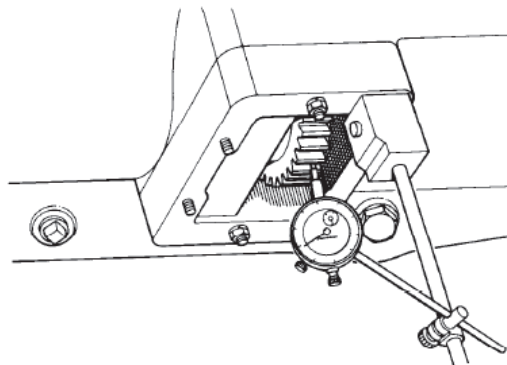

Figure 6 Checking PTO Adapter to Transmission Backlash
- c. Install a dial indicator onto the adapter housing with the dial indicator plunger resting squarely on the adapter gear (Figure 6).